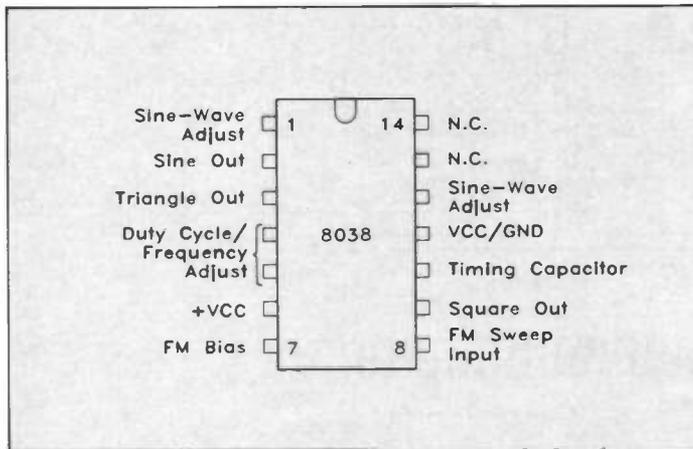
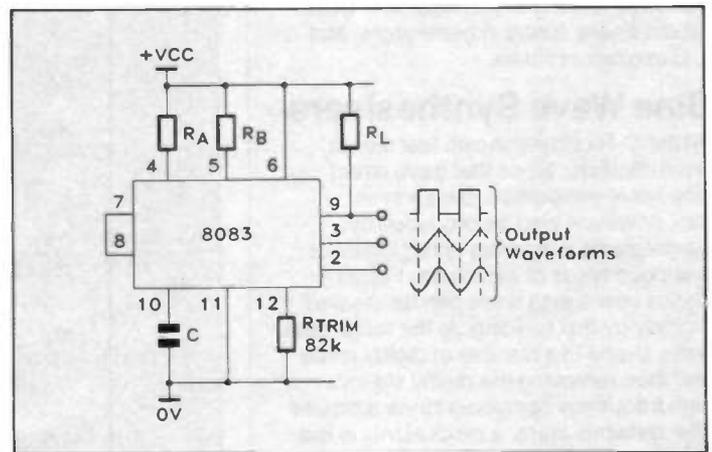

Figure 4. Outline and pin notations of the ICL8038 waveform generator IC.
Figure 5. Basic fixed-frequency triangle/sine/square waveform generator.
Figure 4 shows the outline and pin notations of the 8038, and Figure 5 shows the basic way of using it as a fixed-frequency triangle/sine/square waveform generator that is powered via a single-ended supply. Note in this circuit that the pin-7 FM BIAS terminal is shorted to the pin-8 FM SWEEP INPUT terminal, and in this case the 8038's operating frequency is determined by the values of C, R_A and R_B . In fact these two resistors set the operating values for a pair of internal, constant-current generators that alternately charge and discharge the main timing capacitor (C).
The basic action of the Figure 5 circuit is such that, alternately, C is charged linearly at a rate set by R_A until the voltage reaches two thirds $+V_{CC}$, at which point a switching action occurs and C starts to discharge linearly at a rate set by R_B , until the voltage drops to one third V_{CC} . Here another switching action takes place and the whole process is repeated. R_A and R_B can have any values in the range 1k Ω to 1M Ω ; if these components have equal values (R) the circuit operates at a frequency of $0.3/(RC)$ and generates a symmetrical linear triangle waveform with a Pk-to-Pk amplitude of $0.33 \times V_{CC}$ on pin-3, and a square wave with a Pk-to-Pk value of V_{CC} on pin-9 (which is loaded by R_L). The triangle waveform is also fed to an internal triangle-to-sine converter, which
The 8038 is shown using single ended supplies in the circuits of Figures 5 to 7, and in such cases the three output